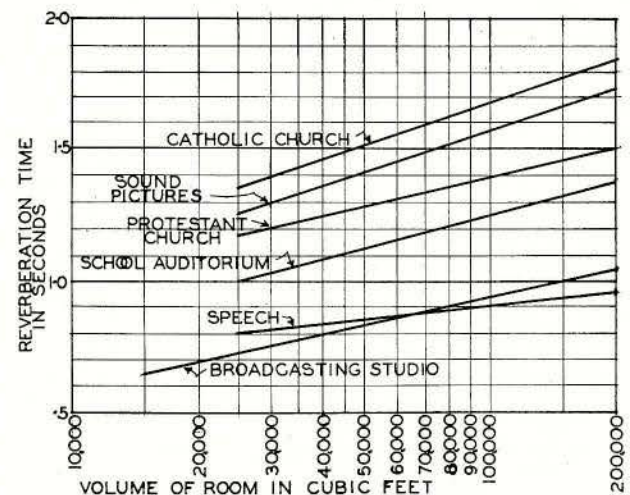

FIGURE 5
Reverberation time is the rate of time taken for a tone to decay to one millionth of its original intensity, or 60 decibels ($10 \log 10^6$). The rate of decay varies, high and low tones decaying more rapidly than the middle tones. For this reason in designing rooms to be used for music, it is advisable to figure the reverberation time at frequencies from 128 cycles to 4096 cycles, and design the acoustical correction, so that it approaches the optimum time (shown in figure 5) at all frequencies.
(a) Determine the optimum time for the room from curve. (Figure 5).
(1) Take a rectangular room of 30,000 cubic feet, or 20' x 30' x 50'.
(2) From figure 5 optimum time is 1.25 seconds.
(3) Surface area of room is 6,200 square feet.
(5) Formula